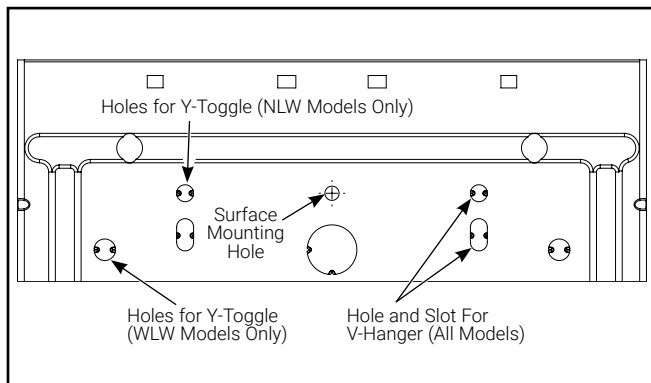

Figure 5.
4. For surface mounting, use the provided mounting holes on each end of the fixture housing (Figure 5). Appropriate hardware should be used (supplied by others).